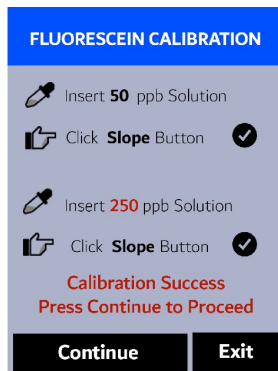

Figure 24.
13. If the calibration succeeds, a second checkmark (  ) "Calibration Success" message will appear (Figure 24). Otherwise, a warning message is displayed.